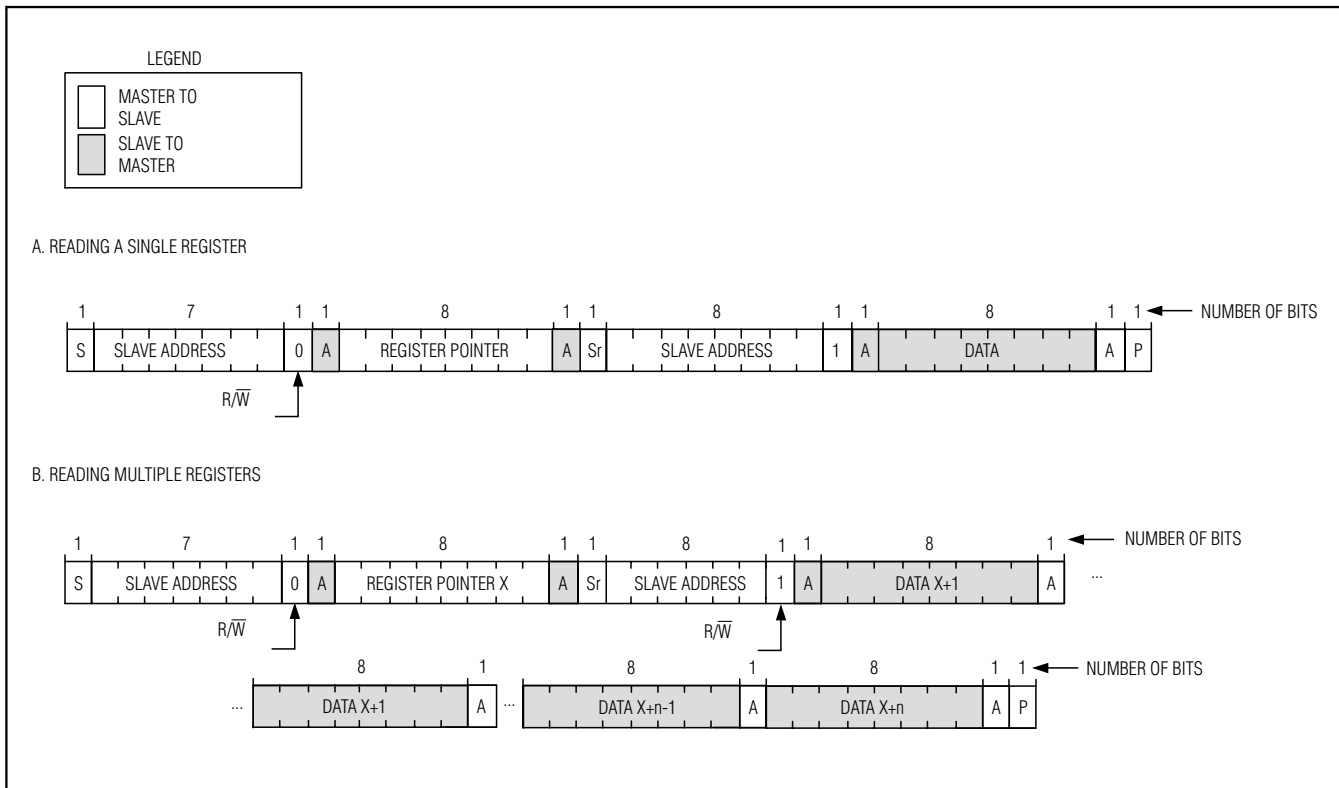

Figure 20. Reading from the MAX8834Y/MAX8834Z
The method for reading a single register (byte) is shown in section A of Figure 20. To read a single register:
- 11) The master sends a STOP (P) condition.
- In addition, the MAX8834Y/MAX8834Z can read a block of multiple sequential registers as shown in section B of Figure 20. Use the following procedure to read a sequential block of registers: